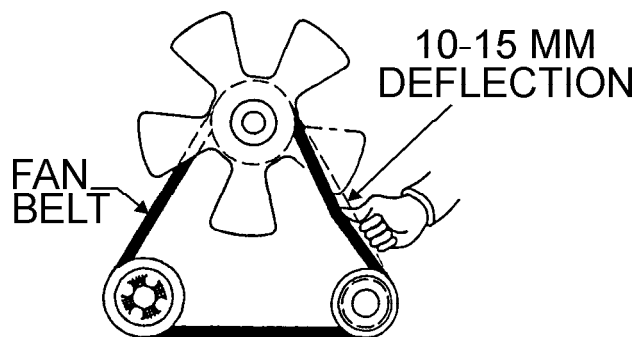

Figure 11. Fan Belt Tension
The fan belt tension is proper if the fan belt bends 10 to 15 mm (Figure 11) when depressed with the thumb as shown below. Never place hands near the belts or fan while the generator is running.
**ALWAYS** be sure that the battery cables (Figure 11) are properly connected to the battery terminals as shown below. The **RED** cable is connected to the positive terminal of the battery, and the **BLACK** cable is connected to the negative terminal of the battery.